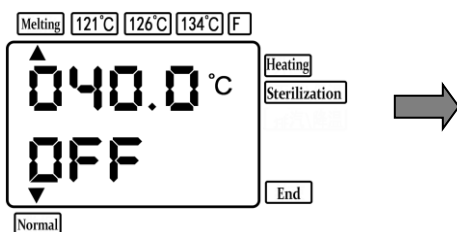
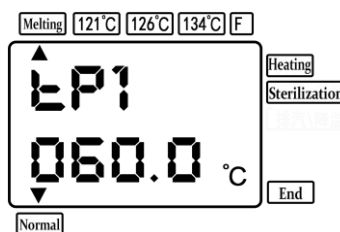

Fig. 12
Fig. 13
③ Melting temperature setting: Press the "Temperature Selection" key to the melting state (Figure 12), then press the "Setting" key to set the melting temperature. You can press the left and right keys to position the cursor, then press plus, or minus key to set the desired melting temperature (Fig.13). After setting, press the "Setting" key to save the modification.